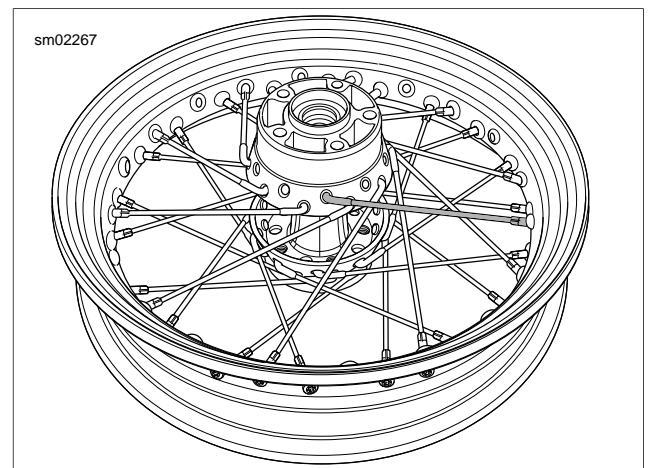

Figure 2-28. Sprocket Side Up: Start First Spoke of Top Row
3. See Figure 2-28. Insert any **upper** row spoke into hub and angle spoke counterclockwise. Place spoke into appropriate rim hole.